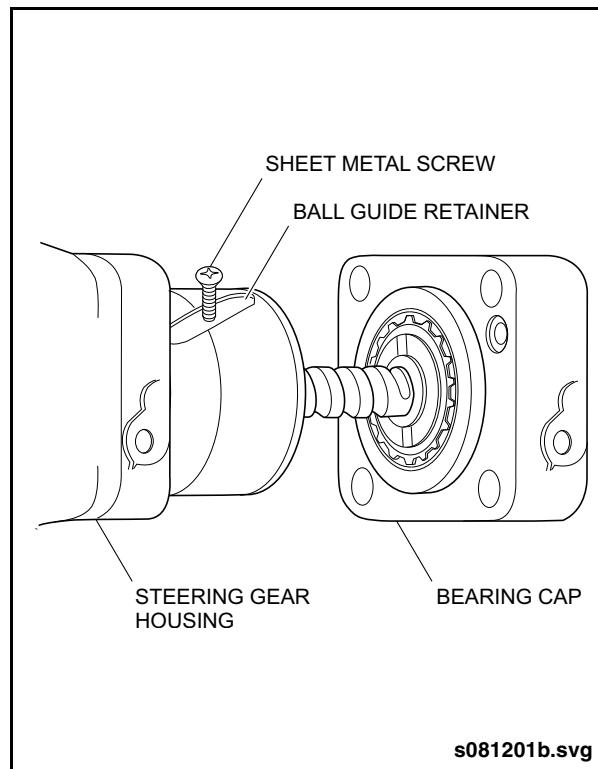

Fig. 3-22: Ball Guide Retainer Removal
13. Insert a small sheet metal screw into ball guide retainer until two or three threads of screw are engaged. Use small pliers to remove retainer from piston. See "Fig. 3-22: Ball Guide Retainer Removal" on page 36.